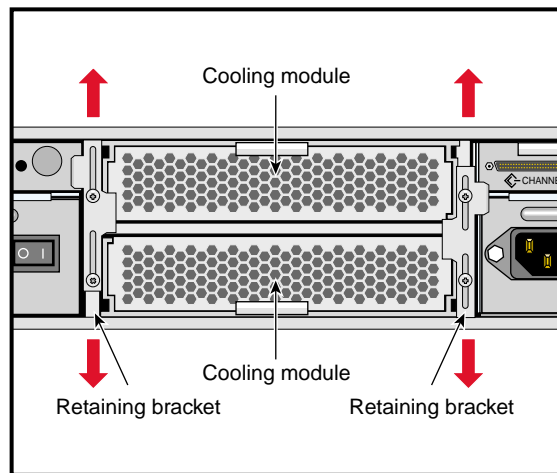

Figure 3-3 Cooling Module Retaining Bracket
1. Loosen the screws securing both retaining brackets (see Figure 3-3), and slide the brackets up or down, depending on the location of the cooling module to be installed, until they are clear of the sides of the cooling module.